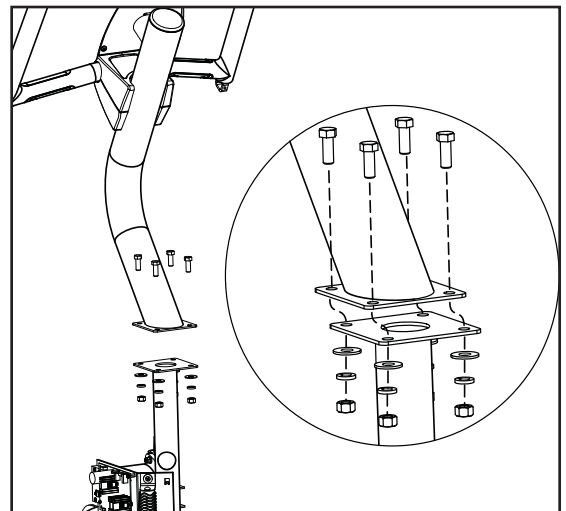

Figure 13
- 8-1** Secure the upper mast weldment to the lower main body utilizing the 4 supplied bolts, lock washers, and flat washers using a 9/16" or 14mm wrench or socket (see Figure 13 and 14).